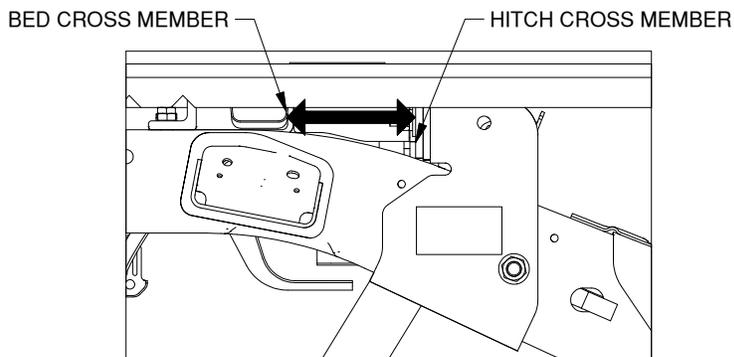

Figure G1: Looking at passenger side frame.
- 1. Square the hitch.** With a tape measure, check the distance between the Turnoverball hitch and the nearest bed cross member. The distance between the hitch and the cross member should be consistent on the driver side and the passenger side of the hitch, see Figure G1.